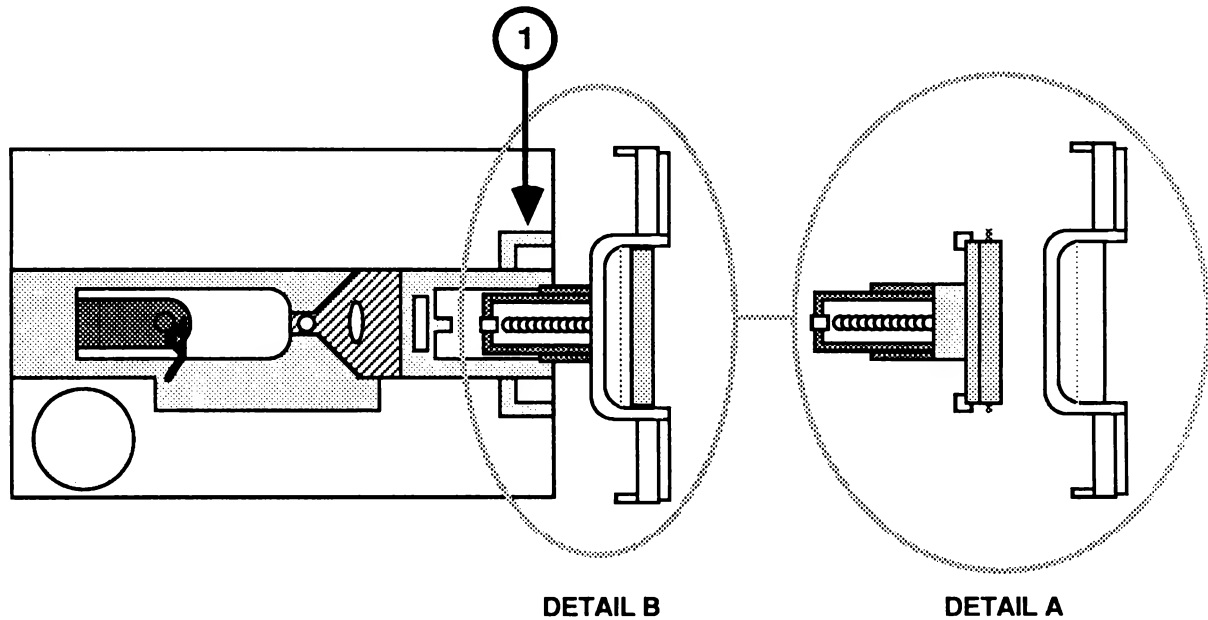

FIGURE 3
1. Put the door in the bezel (Figure 3, detail A).
2. Hold the door and bezel together. Slide the projecting part of the door partway into the grooves of the hub frame (Figure 3, detail B).
- a) Push down the hub frame so that its aluminum arms (Figure 3, #1) fit under the top edge of the bezel.